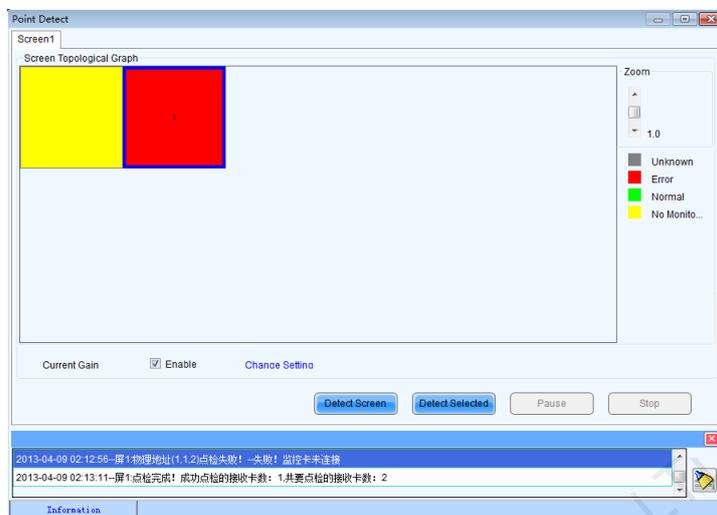
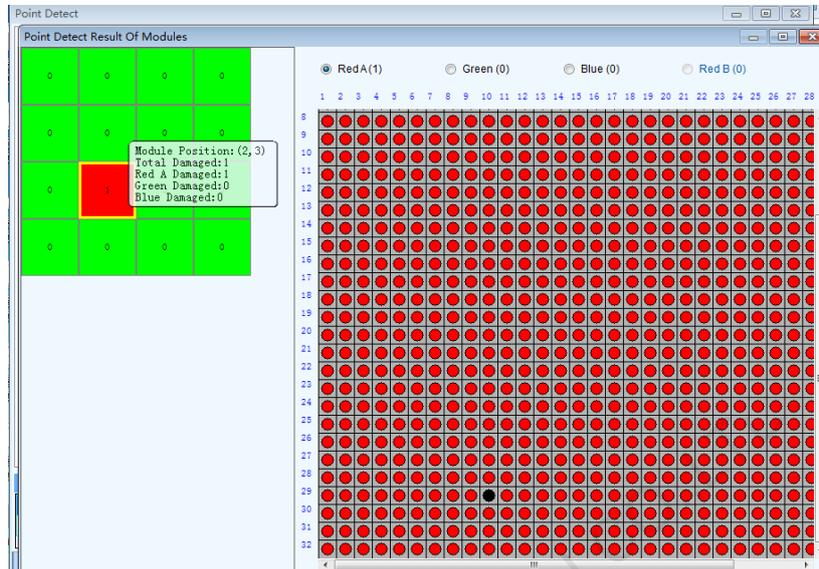

Fig. 7-56 Point detect page
Fig. 7-57 The Point Detect Result of Modules
- a) Select **Tool -> Point Detect** from the NovaLCT-Pluto main menu to open the Point Detect page for point detect setting. Shown in Fig. 7-56 is the Point Detect page. As shown in the figure, the LED display under point detecting has a scan boards array of 2 rows and 4 columns. (One scan board corresponds to a cabinet.) And the drive chips used are MBI5036:
- b) In Fig. 7-56 click on the cabinet in the sketch map to open the Point Detect Result of Modules page for details about LED status information. Shown in Fig. 7-57 is the Point Detect Result of Modules page showing the LED status of the red cabinet in Fig. 7-56:
Shown on the left of Fig. 7-57 is the module array of the cabinet and on the right the pixel array of the selected module in the module array.